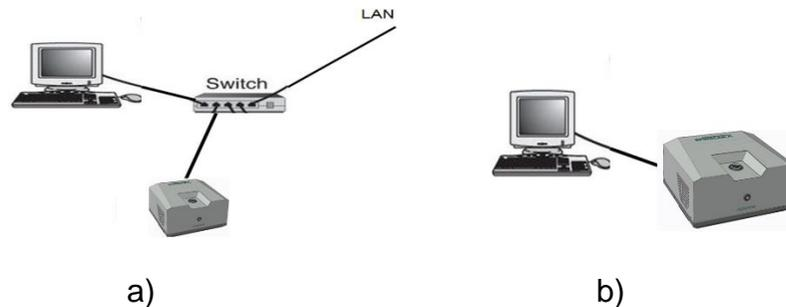

Figure 4.1 (a, b)
2. Connect the Ethernet cables from the spectrometer and computer to the router as shown in the Figure 4.1, depending on whether you want to access the local network or not;